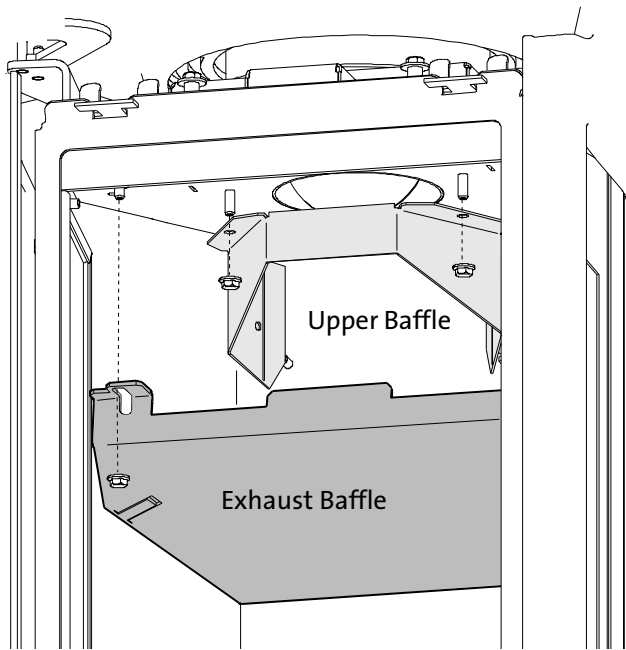

Figure 7.4. Upper Baffle, LP conversion.
- Remove two, 10 mm nuts to detach and drop the Exhaust Baffle. You do not need to remove it from the firebox. See Fig. 7.4.
- Loosen two, 10 mm nuts on the Upper Baffle, (Figs. 7.4 and 7.4a), enough to break both end wings off at the perforations. Retighten the two nuts.